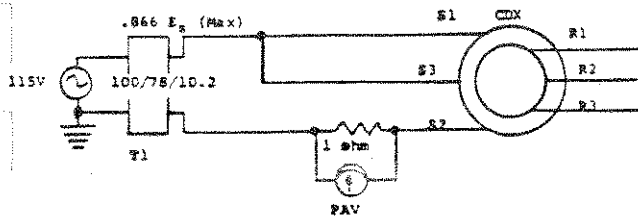

Figure 7-11. Input Current Test (CDX)
- a. Set up equipment as shown in figure 7-11.